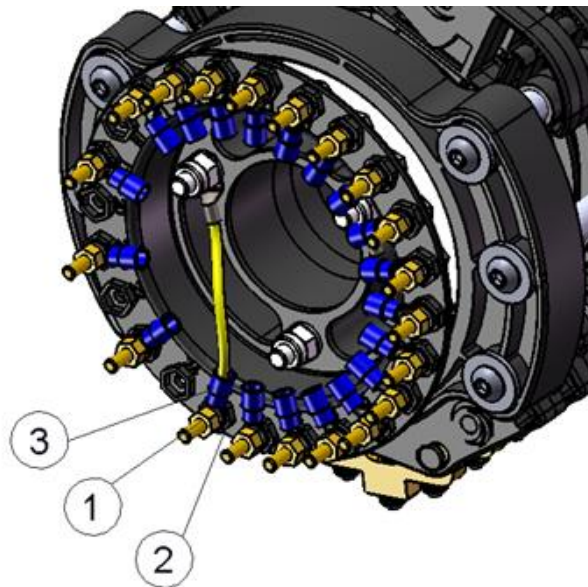

Fig. 14
- Remove the nut (1) and the washer (2) (Fig.14)
- Position the terminals (3) on the pin according to the labelling of terminal board
- Secure the terminals with nut (1) and washer (2).